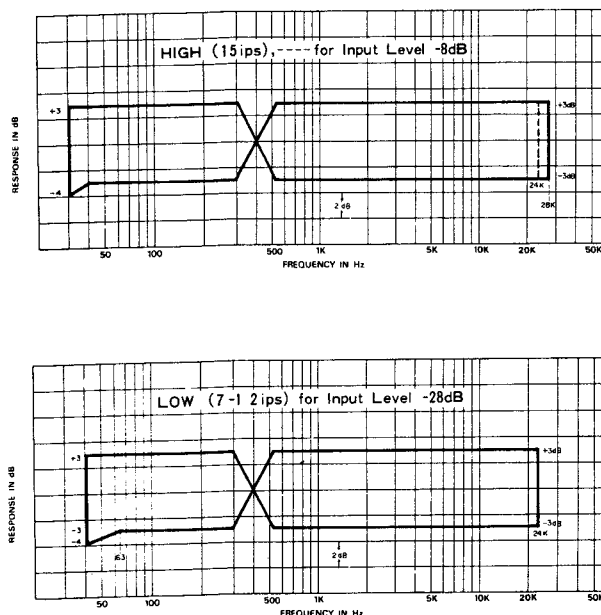

Fig. 10-14 Frequency Response –OVERALL– 2
25. During recording, monitor the Tape signal and adjust equalization VR-552 (on BIAS OSC UNIT) for both channels, and check for readings within the Response Limits chart. See Fig. 10-14.
26. Apply signal swept from 30 Hz to 28 kHz, –28 dB (30.8 mV) and while monitoring the off-the-Tape signal check for readings within the Response Limits chart. See Fig. 10-14.
27. Apply signal swept from 40 Hz to 24 kHz, –28 dB (30.8 mV) and while monitoring the off-the-Tape signal check for readings within the Response Limits chart. See Fig. 10-14.